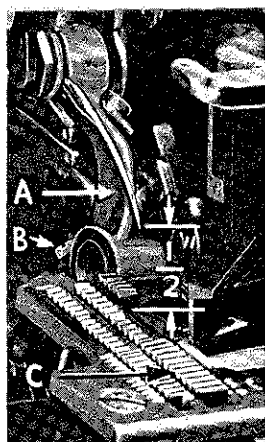

Fig. 3
With throat plate in position, needle should center in the front end of needle slot. When needle is at high position, needle point should be set 1/2 inch above throat plate (Fig. 3). Move needle driving arm (A, Fig. 3) by loosening clamp screw (B). Remove throat plate.